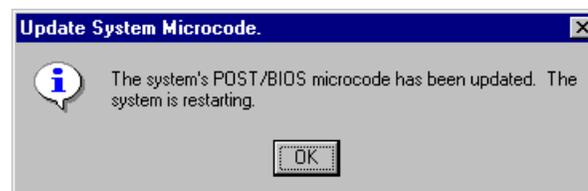

Figure 143. BIOS Update Complete
7. Once the process is complete, you will get the message shown in Figure 143.